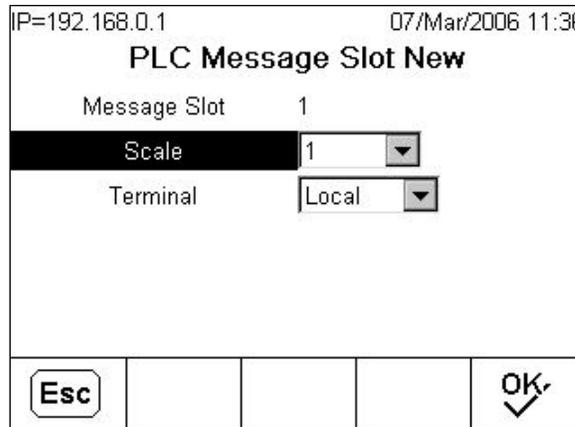

Figure 5-9: New Message Slot Screen
6. Figure 5-9 shows the screen that opens when NEW is selected from the Message Slots View screen (Figure 5-8).